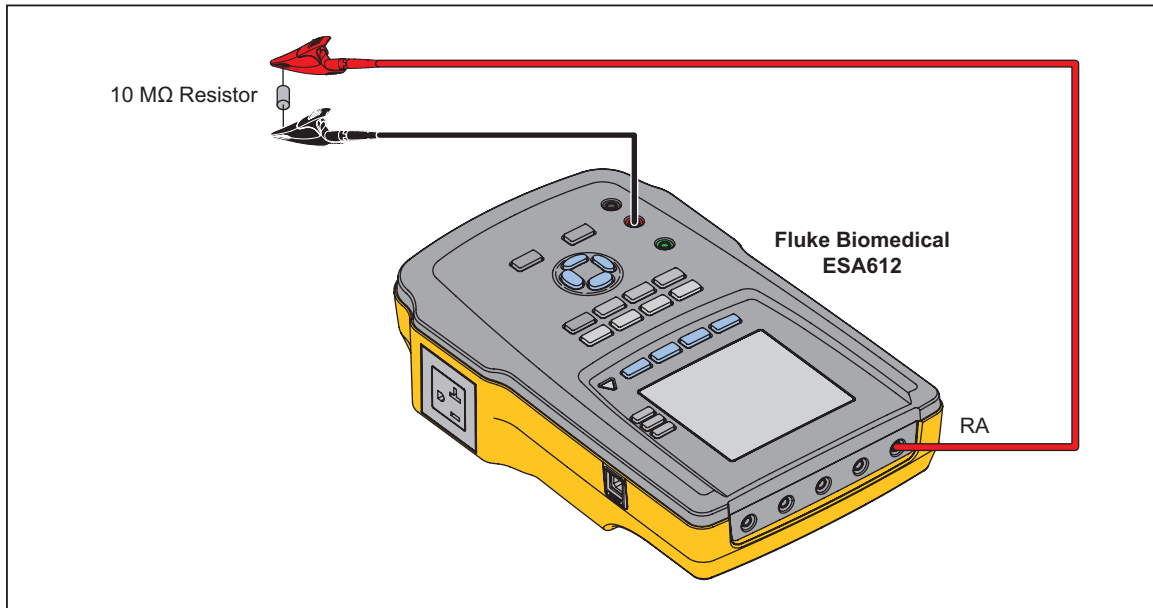

Figure 3-10. AP to NE Verification Connections
45. With one side of the 10 MΩ resistor still connected to RA, connect the other side to the red jack as shown in Figure 3-10.